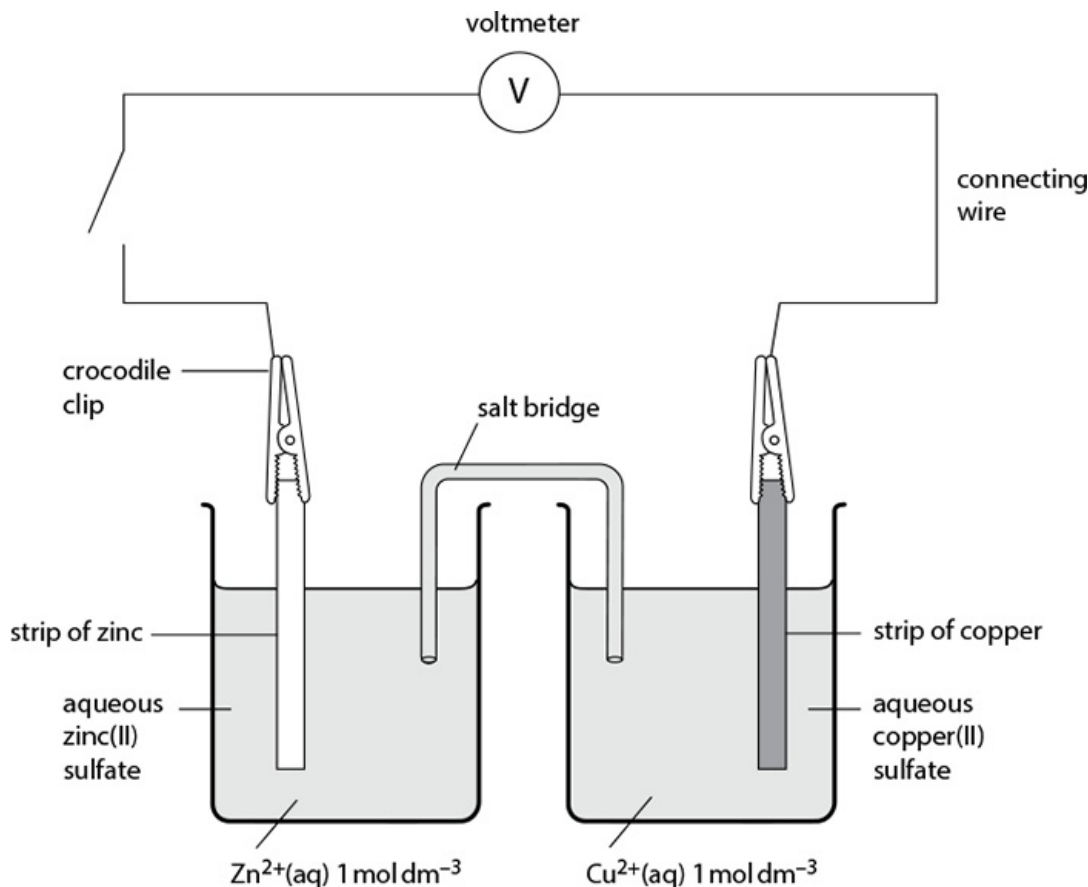

Figure 12.2: A typical circuit for an electrochemical cell
- 2 Pour 50 cm³ of zinc(II) sulfate solution into one beaker and 50 cm³ of copper(II) sulfate solution into another.
- 3 Connect the two half-cells with a salt bridge made from a strip of filter paper soaked in potassium nitrate solution, as shown in Figure 12.2.
- 4 Connect the strips of copper and zinc to the external circuit as shown in Figure 12.2 (Cell **A**).
- 7 Repeat the experiment using zinc dipping into zinc(II) sulfate and iron dipping into iron(II) sulfate. Use a fresh salt bridge (Cell **B**).
- 8 Repeat the experiment using copper dipping into copper(II) sulfate and iron dipping into iron(II) sulfate. Use a fresh salt bridge (Cell **C**).